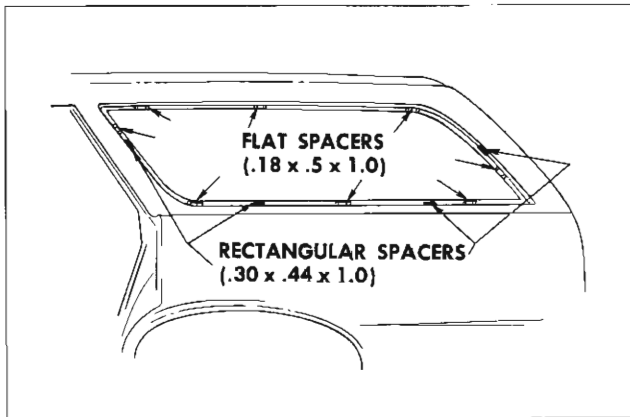

Fig. 13-13 Window Spacer Installation
2. Cement eight flat spacers (.180" x .5" x 1.0") to window opening pinchweld flange with black weatherstrip adhesive as illustrated in Fig. 13-13.
3. Using black weatherstrip adhesive, cement four rectangular spacers (.30" x .44" x 1.0") to quarter window lower and side opening rabbets in the depressions provided, two across lower rabbet and one on each side rabbet (Fig. 13-13).